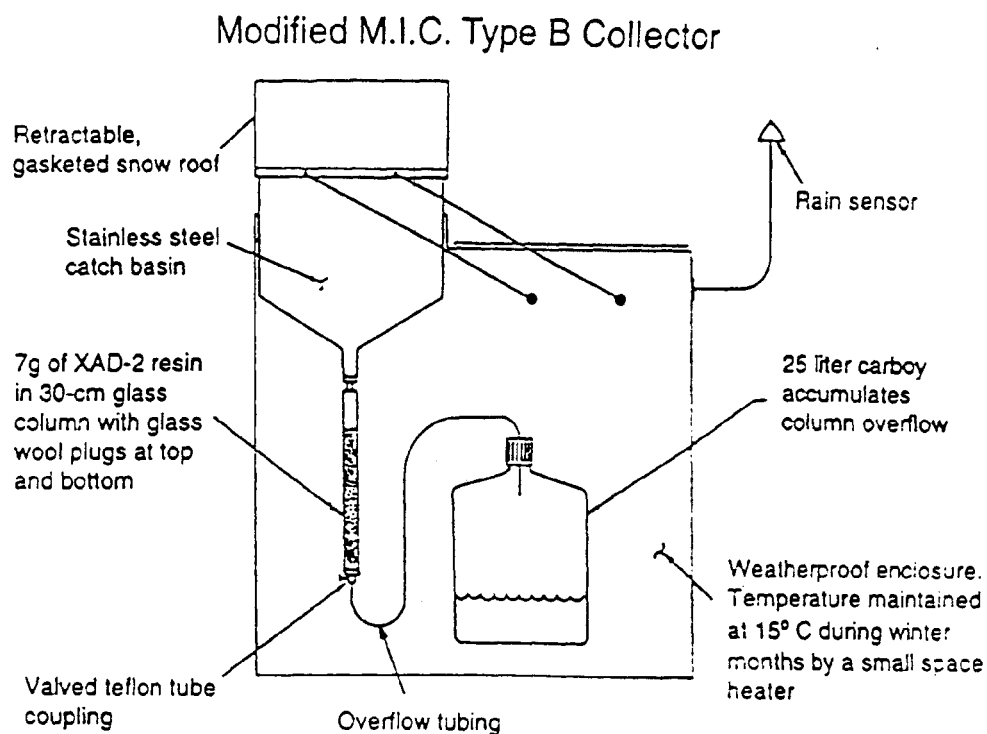

Figure 1. Schematic of the MIC Precipitation Collector
A diagram of the MIC sampler and XAD column assembly is shown in Figure 1. General maintenance and trouble shooting are covered in Section 9.0.
- 3) Rinse the collection surface with about 200 mL of DI water (one wash bottle full) while wiping with the piece of precleaned glass fiber filter sent with the monthly supplies. This step removes adhering particles from the collection surface. Allow rinsings to pass through the column until the water level is halfway between the top of the resin bed and the top of the column (see Figure 1). If the temperature is so cold that water freezes on contact with the funnel, simply wipe of the collection surface with a dry piece of filter and go to Step 4.